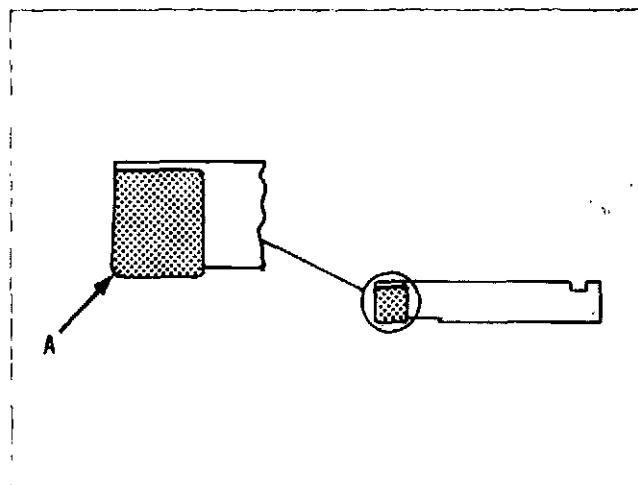

Fig. 1-12 (N20148). Counterbore Tool Bit Radius.
- The tool must have a radius of 0.008 to 0.012 inch [0.20 to 0.30 mm] as shown in Fig. 1-12.